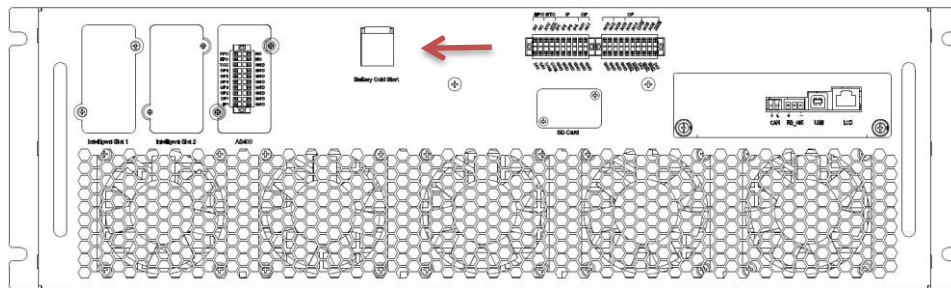

Figure 5-1 The position of the battery cold start button on cabinet
2. Press the red battery cold start button for more than 7 seconds, the system is then powered by the battery. See Figure 5-1;